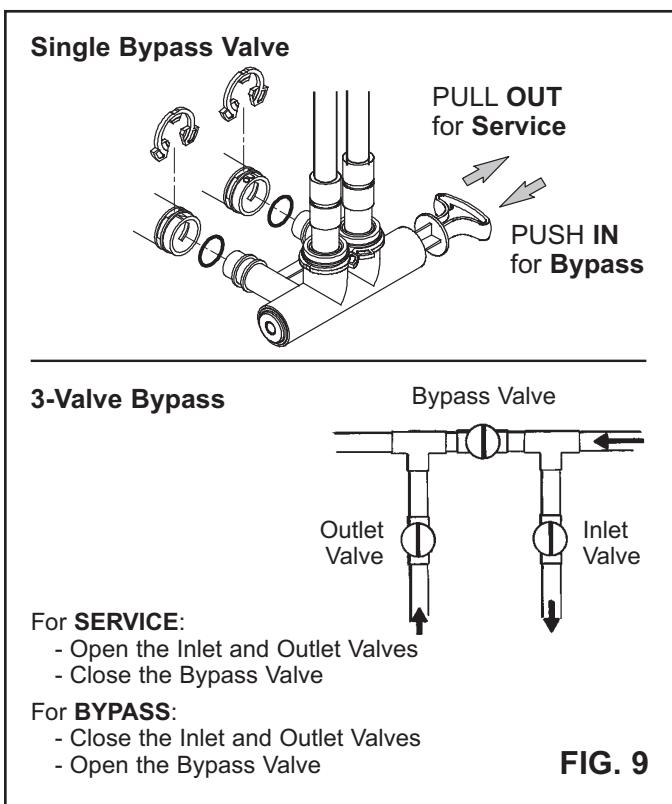

FIG. 9
- b. Referring to Figure 9, place the bypass valve(s) in "service".